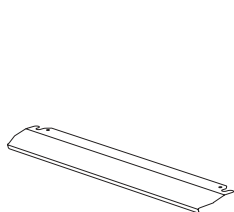

Figure 27
1. A safety panel is designed to protect control panel and the buttons when the oven is in grill mode. (Figure 27)